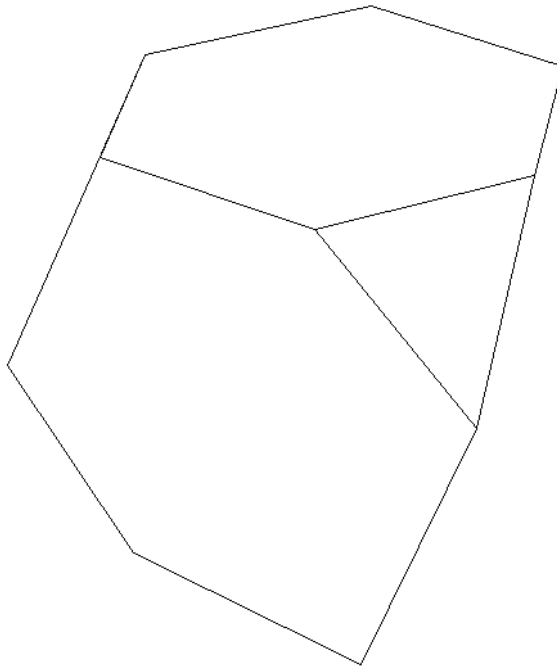

Figure 9.2
2. Cutting off each of the 4 tips results in a “truncated tetrahedron.” In fact, the “cut-off” portion turns out to be a miniature tetrahedron itself, and each face of the “cut” is a perfect equilateral triangle. By cutting off the tips of the tetrahedron to create its truncated version, you introduce a new polygon-shape on each of 4 faces: the hexagon (**Figure 9.2**).